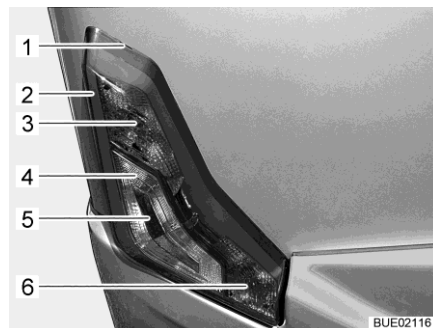

Fig. 216 Rear lights
- Insert flat tool into notch (Fig. 216,1) and carefully lever off the housing.